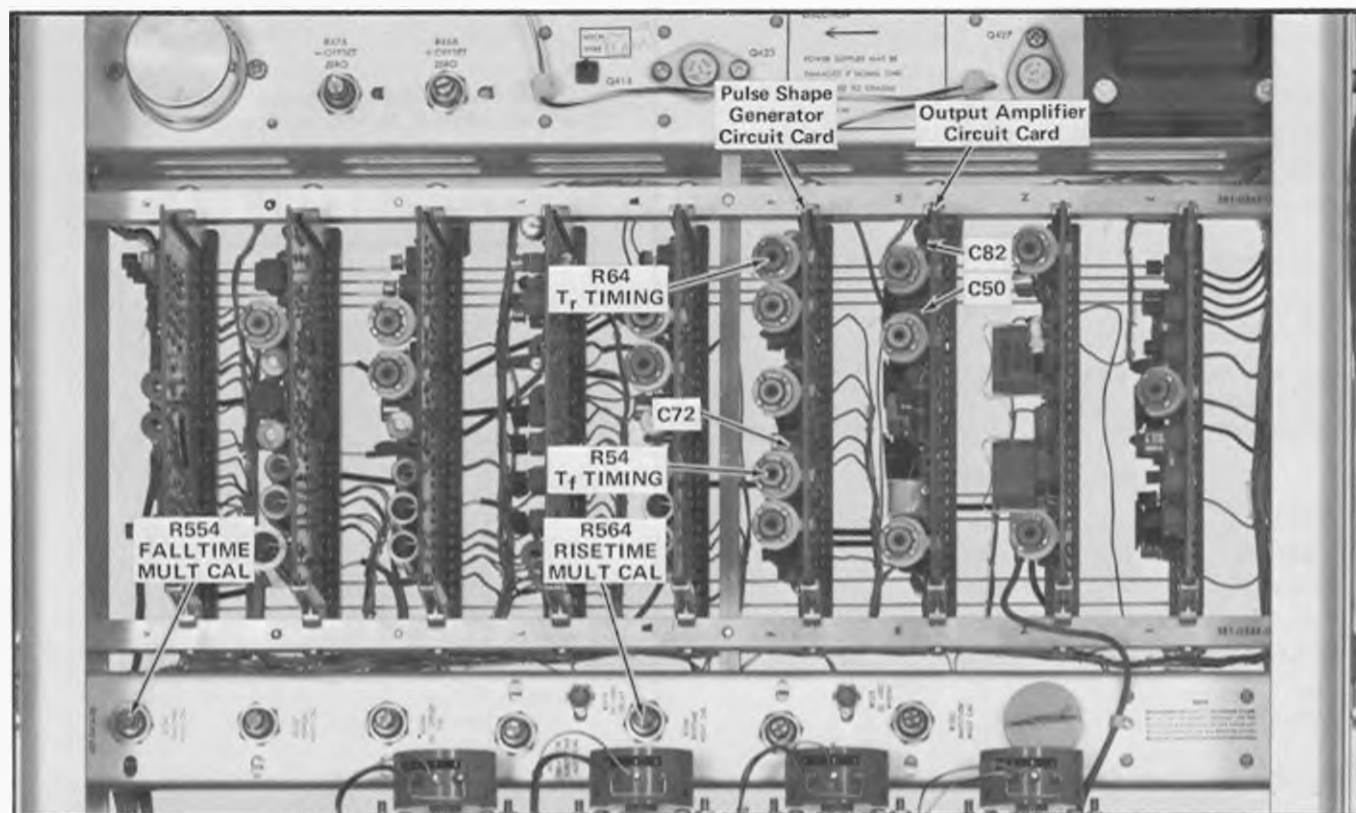

Fig. 6-11. Location of risetime and falltime, and pulse shape adjustments on Pulse Shape Generator circuit card and Type R116 chassis.
l. ADJUST—R64, the  $T_r$  TIMING adjustment on the Pulse Shape Generator circuit card (see Fig. 6-11), if the display is not correct.
p. ADJUST—R54, the  $T_f$  TIMING adjustment, on the Pulse Shape Generator circuit card (see Fig. 6-11), if the falltime is not correct.
x. ADJUST—R564, the RISETIME MULT CAL adjustment on the Type R116 chassis (see Fig. 6-11), if the risetime is not correct.
ab. ADJUST—R554, the FALLTIME MULT CAL adjustment on the Type R116 chassis (see Fig. 6-11), if the falltime is not correct.
k. ADJUST—C50, the PULSE OVERSHOOT adjustment on the Output Amplifier circuit card (see Fig. 6-11), for the fastest falltime with minimum aberrations. Adjust C82 (Pulse Tilt) for the flattest possible baseline.